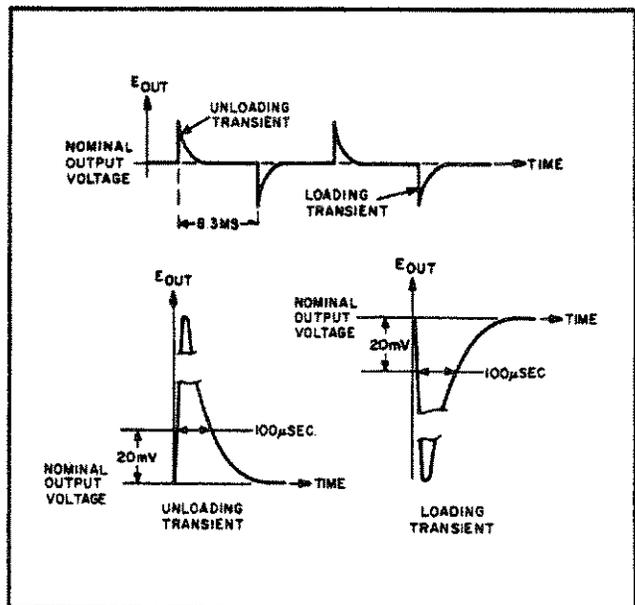

Figure 5-5. Transient Recovery Time, Waveforms
- k. Starting from the major graticule division representative of time zero, count to the right 100μsec and vertically 20mV. Recovery should be within these tolerances as illustrated in Figure 5-5.